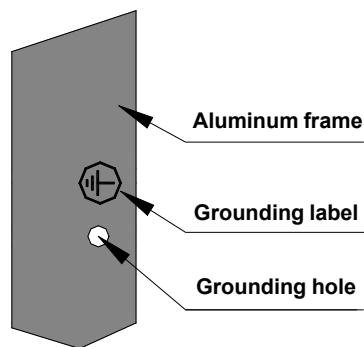
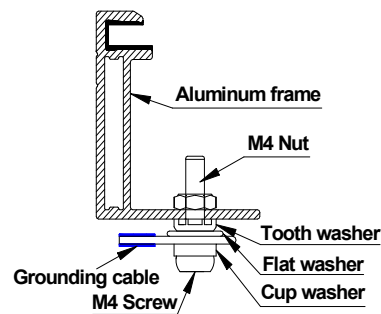

FIG 4 Grounding hole and ground label
FIG 5 Grounding method
7.5.1 LN Solar modules use anti-corrosion and oxidation resistance aluminum frame as rigid supporting. In order to protect the module from lightning strike, electrostatic damage, and personnel safety, all module frames and mounting racks must be properly grounded, as shown in Figure 4: grounding hole and grounding label. Use the recommended connector terminal, or an equivalent, to connect the cable to the frame, and assure good electrical contact as shown in Figure 5: Grounding method.